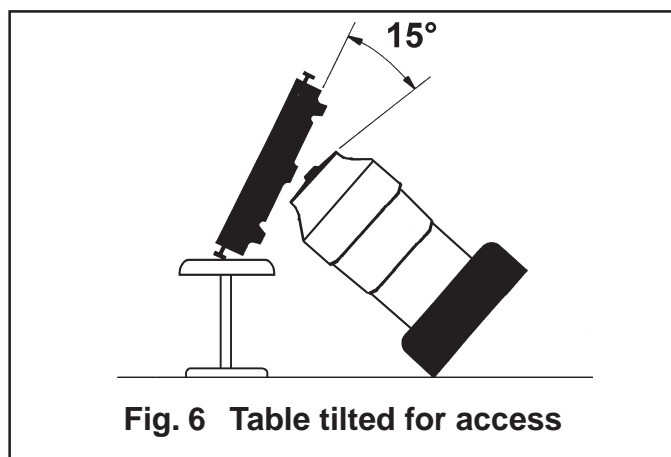

Fig. 6 Table tilted for access
- iv Place an anaesthetist's stool, or a similar strong support, along one side of the table. With two people standing on the same side of the table as the support (one at each end), tilt the table over and gently lower it onto the support, making sure that it rests on the side bars of the long and short trunk sections as shown in Fig. 6.